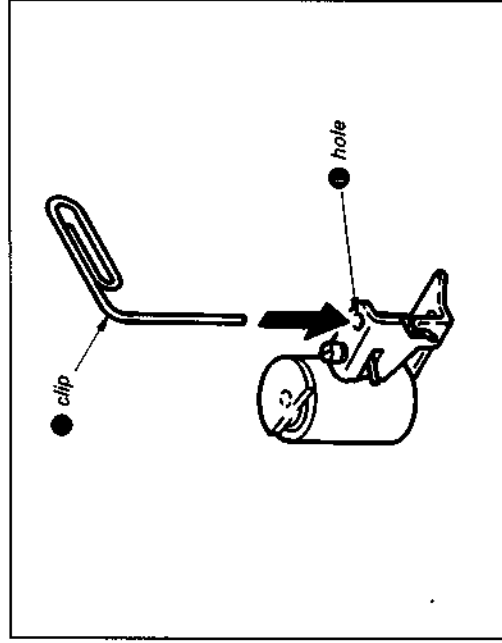

Fig. 7-20.
- 2) Insert the end of a paper clip ● or other thin rod inside the pinch roller arm assembly hole ●. (See Fig. 7-20, 7-21.)